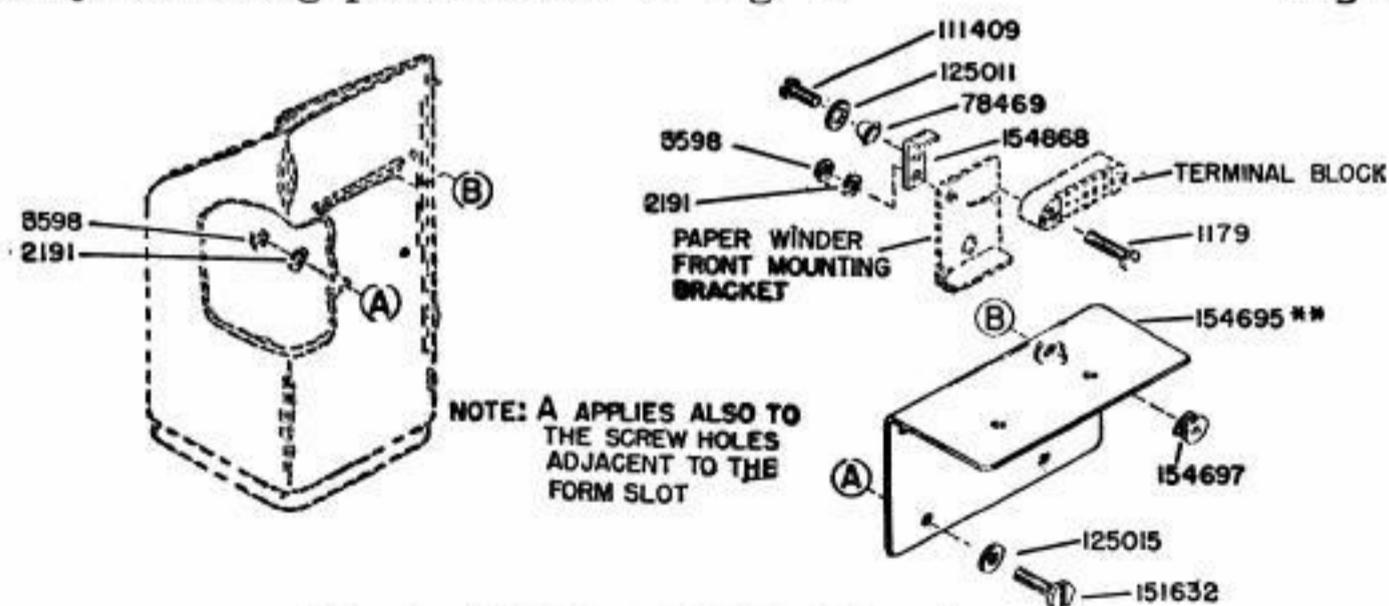

Fig. 5—TP153901** Modification Kit
2.12 The 15-type paper winders can be mounted on 28A, 28B, 28C, 28D and 28E teletypewriter cabinets by the use of the TP153901** modification kit which contains the necessary mounting parts shown in Fig. 5. Fig. 5